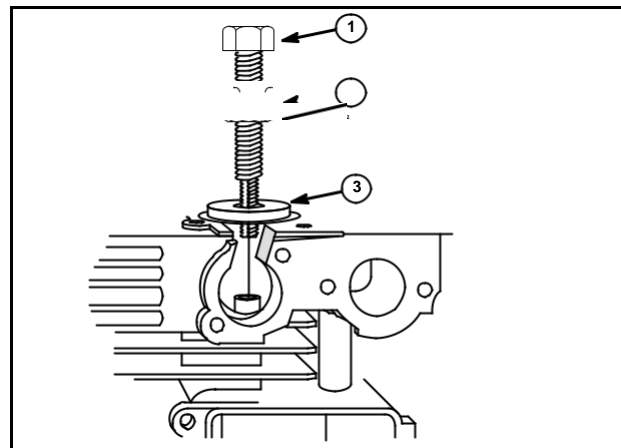

Fig. 12
4. Assemble Tool #19272, Puller Nut (2), Tool #19271, Puller Screw (1), and Tool #19270 Puller Washer (3), Fig. 12.
4. Assemble Tool #19239, Puller Nut, Tool #19238, Puller Screw, and Tool #19240, Puller Washer, ref. Fig. 12 (typ.).
7. Hold puller screw stationary and turn puller nut down on washer until valve guide bushing is removed, Fig. 12.